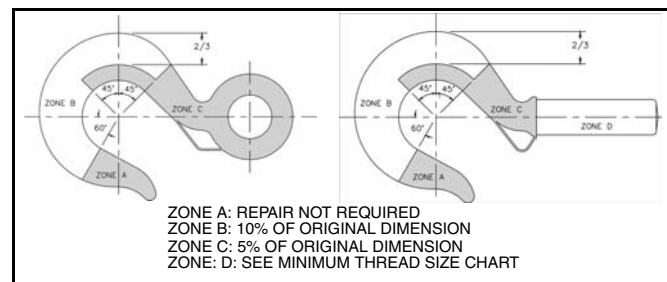

Figure 1
- Never use a hook that is worn beyond the limits shown in Figure 1.
- Remove from service any hook with a crack, nick, or gouge. Hooks with a nick or gouge shall be repaired by grinding lengthwise, following the contour of the hook, provided that the reduced dimension is within the limits shown in Figure 1. Contact Crosby Engineering to evaluate any crack.
- Always make sure hook supports the load. The latch must never support the load. (See Figure 1 & 2).